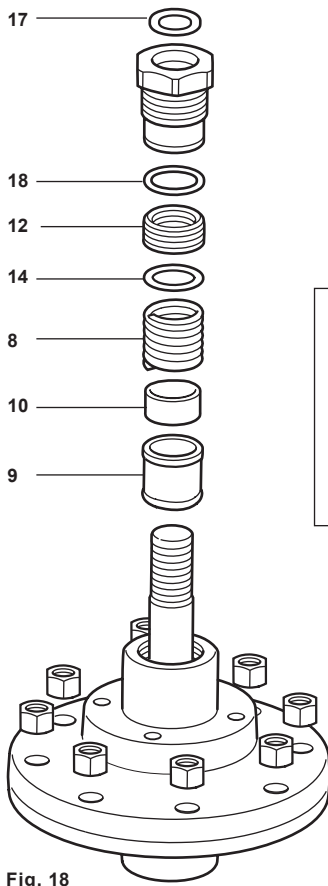
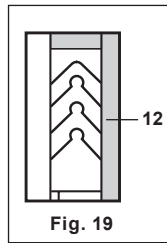

Fig. 18
Fig. 19
5.3 Replacement of PTFE gland packings (reference Figure 18)
- Remove the lock-nut from the stem (20), and withdraw the plug stem assembly (with cage on balanced versions).
- Withdraw the PTFE packing (12) and discard. Remove all metal components, washer (14), spring (8), bearing (9) and spacers (10) carefully noting how many components have been removed as it will differ on each valve size. Clean and examine these components replacing any that show signs of damage or deterioration.
- Clean the gland cavity and reassemble the gland components in the order shown in Figure 17. **Note** that the lower bearing must be fitted with the radius edge downwards. When fitting the chevron seals they should be inserted one at a time (see Figure 19). It may be necessary to compress the spring and seat using the gland nut after fitting two or three chevrons and to repeat this at similar intervals until all PTFE components are in place.